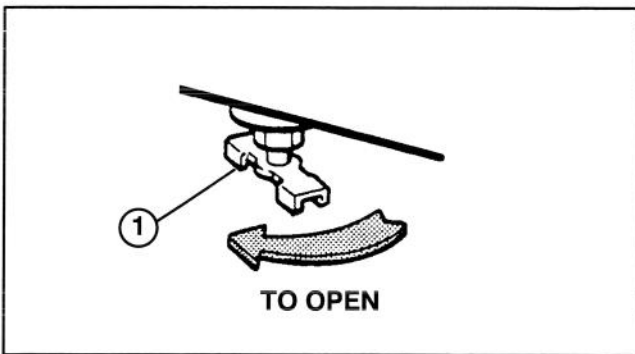

Figure 4
4. Slowly open the petcock on the bottom of either tank (Fig. 4). Be careful of escaping air.